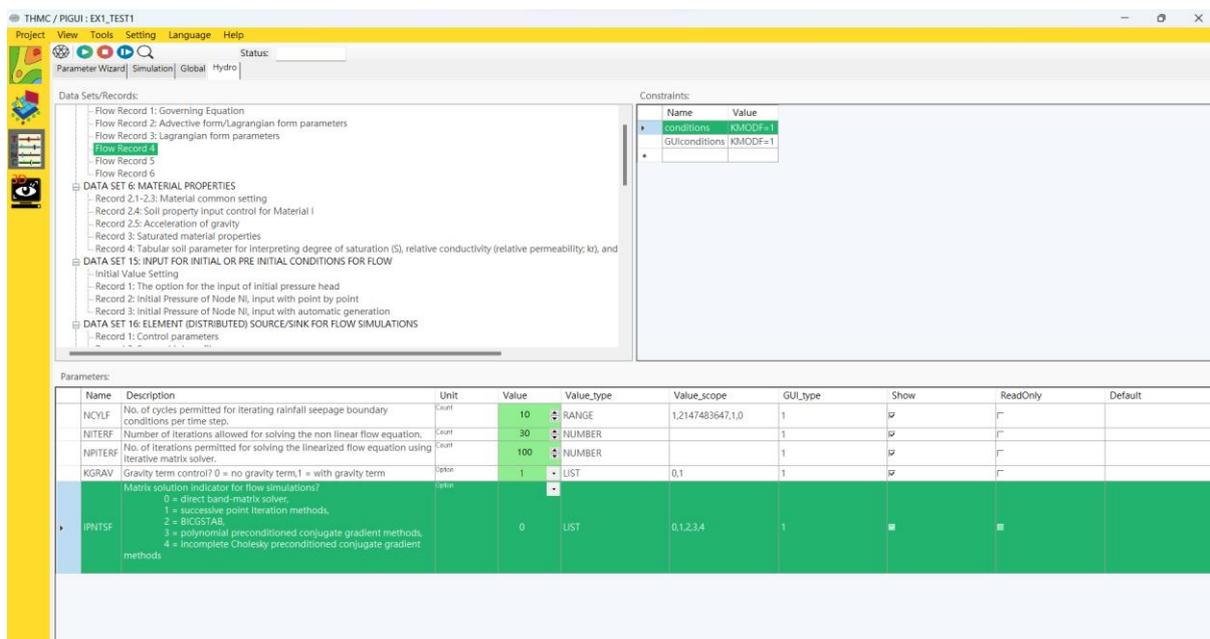

Figure 1.46. 'Hydro' tab.
19. In the 'Hydro' tab, you can view and modify inputs related to iteration and optional parameters, material properties, initial conditions, sink/source, and boundary conditions. Since Benchmark problem 1 simulates the vertical flow of fluid flow, it should be set as 'Data set 3 → Flow Record 4 → KGRAV = 1' as shown in Figure 1.46. For matrix solution, choose the direct band-matrix solver (IPNTSF = 0). Furthermore, since the tolerance is set to 0.02, it should be configured as 'Data Set 3 → Flow Record 6 → TOLAF = 0.02, TOLBF = 0.02'.